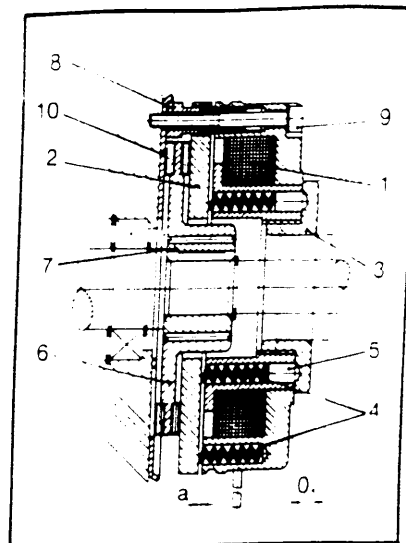

FIGURE 1
The Lenze Electromagnetic Release, Spring Set Brake - Type 14.448, as shown in Figure 1 produces its stopping torque by the use of multiple springs (4) exerting pressure against the armature plate (2). The armature plate, in turn, is forced towards the friction plate (8) (or mounting flange (10)) compressing the dual faced friction rotor (6) between the armature plate and the friction plate (or mounting flange). Figure 1 illustrates the position of the armature plate, friction rotor and friction plate in the set position. The rotor is internally splined to the hub (7) which is keyed to the shaft.
(NOTE: Air gap dimension is illustrated in Figure 1 denoted by "a")
The brake is supplied from the factory with the nominal torque settings. This torque can be reduced by unscrewing the torque adjustment ring (3) with a spanner within the limit of the "0," dimension given in Table 1 and depicted in Figure 1. The torque adjuster ring has detent action with torque variation per step given in Table 1.
In most applications, the brake needs practically no maintenance. However, after a long period of operation, or if the brake has a high duty cycle, adjustment of the air gap ('a', Figure 1) may be necessary. When the 'a max' value shown in Table 3 is exceeded, adjust the value back to 'a' using the air gap adjustment instructions described in Section V, step 9 of the assembly instructions.